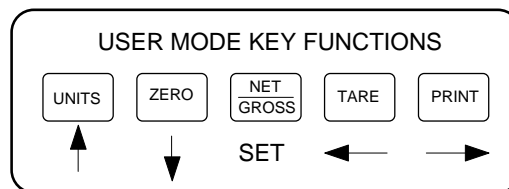

Figure 5-1: User Menu Key Assignments
3. Use the four directional keys (shown in Figure 5-1 below) to adjust the displayed value to the actual ID Number value. Increase the flashing digit by pressing the UNITS key. Decrease the flashing digit by pressing the ZERO key. Pressing the PRINT key or the TARE key will change the position of the flashing digit.
3. Use the four directional keys (shown in Figure 5-1 above) to adjust the displayed value to the actual line feeds value. Increase the flashing digit by pressing the UNITS key. Decrease the flashing digit by pressing the ZERO key. Pressing the PRINT key or the TARE key will change the position of the flashing digit.